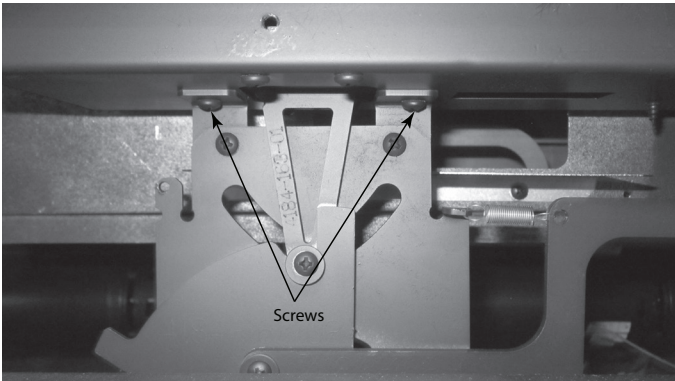

**Figure 4.24 Screwing Timer to Air Chamber**
10. Screw the timer to the air chamber. See Figure 4.24.